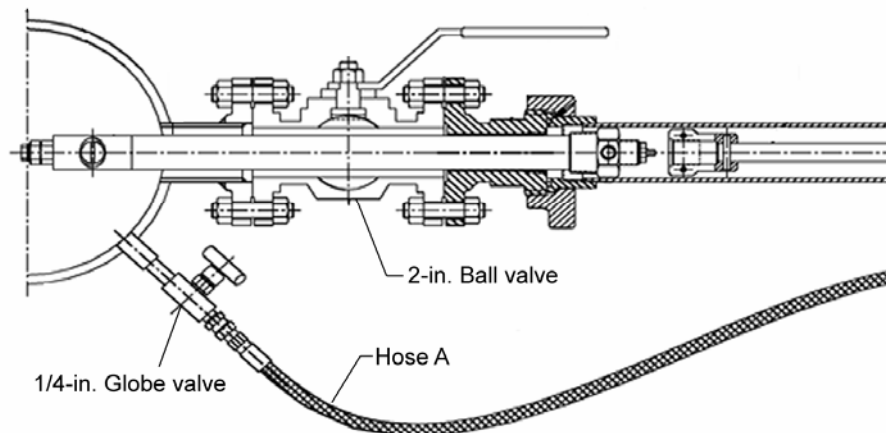

Figure 1—Pipeline preparations required for the use of the A-3 Sample Probe Retriever
- A 1/4-in. connection must be welded close to the 2-in. connection (see Figure 1) to accommodate a 1/4-in. MNPT globe valve. (Retriever Hose A threads into the globe valve.)